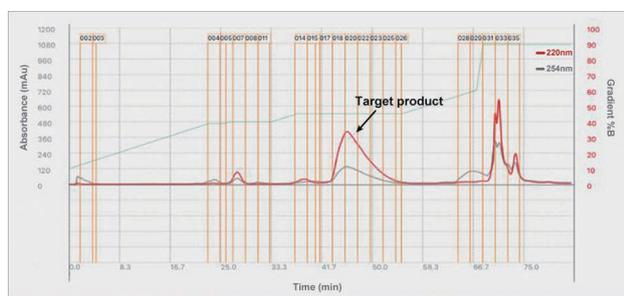
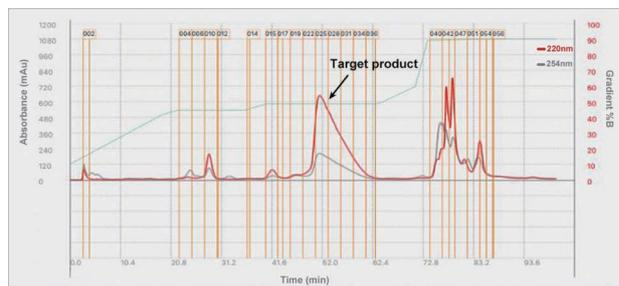

Figure 5. The flash chromatogram of the synthetic product on a 25 g flash cartridge.
Figure 6. The flash chromatogram of the synthetic product on a 120 g flash cartridge.
1.25 g of the final product was taken as the sample and dissolved in 10 mL methanol with fully mixture. The experimental settings of the flash purification were listed in Table 3. And the flash chromatograms were shown in Figure 5 and Figure 6.
As shown in Figure 5 and Figure 6, during the separation method scaling up for actual sample, only flow rate should be adjusted in accordance with specific sized cartridge and good performance could be achieved without any changes to other parameters. Furthermore, the retention time and peak shape of the target product and other impurities shows high consistency in the chromatogram, indicating a producible and reliable separation method scaling up. The purity of the target product is >95% by HPLC analysis, meeting the requirements to purity of the target product.